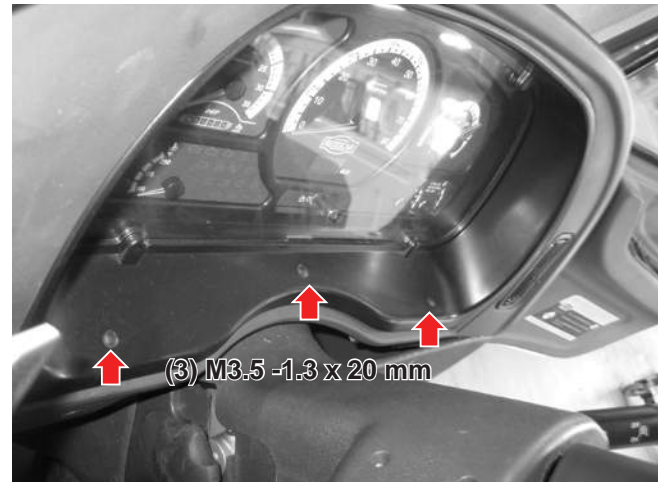

Figure 23-2
6. Reinstall the three screw plugs (see *Figure 23-2*).
3. Hook the upper tabs under the upper perimeter of the cluster cut-out in the instrument panel (see *Figure 23-2*).
4. Push the lower portion of the cluster forward, ensuring the cluster bezel locates securely in the cluster cut-out in the instrument panel (see *Figure 23-2*).
5. Reinstall the three screws, ensuring that they are aligned with the spring nuts (see *Figure 23-2*).